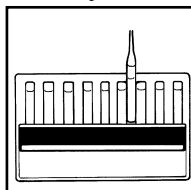

Figure 4
8. Hold the comparator in a nearly horizontal position while standing directly beneath a bright source of light. Place the VACUette ampoule between the color standards moving it from left to right along the comparator until the best color match is found (fig 4). If the color of the VACUette ampoule is between two color standards, a concentration estimate can be made.